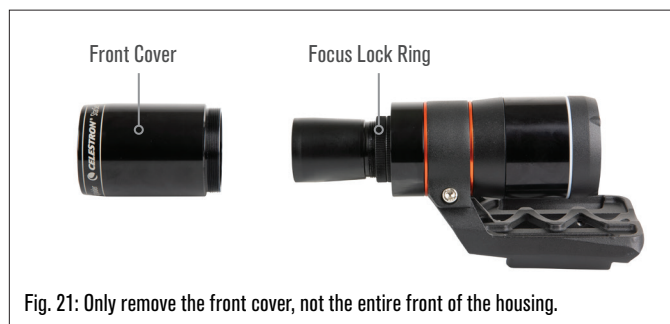

Fig. 21: Only remove the front cover, not the entire front of the housing.
3. If the focus is sharp, you are done. If not, remove SSAG's front cover by grasping it and rotating it counterclockwise until it comes off (Fig. 21). Only remove the front cover, not the entire front of the housing.